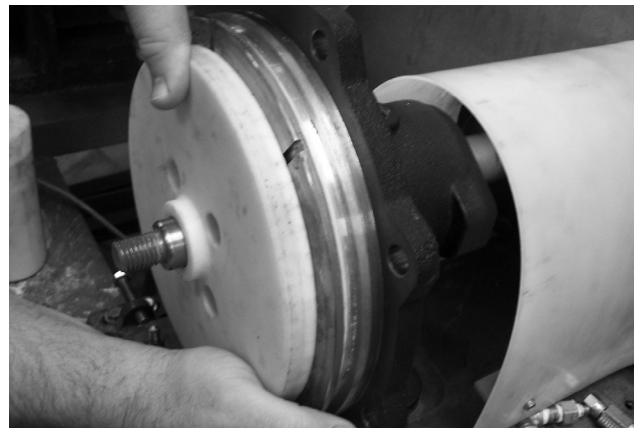

Figure 9
6. Place the membrane into the grooves (Figure 8) on the seal flange, then place the front chamber plate onto the shaft. Use the provided tool to push the front chamber plate so that it is up against the rear chamber plate (Figure 9). Screw in four Allen bolts while someone holds the front chamber plate in place with the provided tool. Torque the bolts to 48 in-lbs.